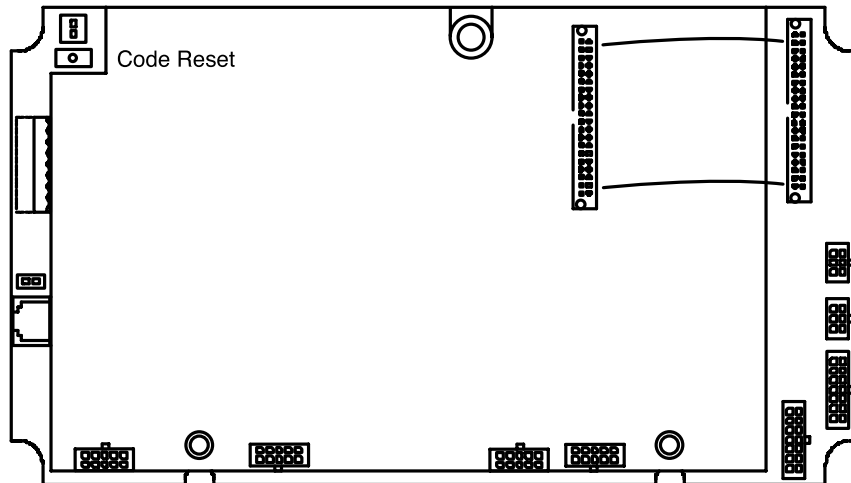

FIGURE 3-2
3. With power turned on and the unit in Operate mode, press and hold the ACCESS CODE RESET button (on the upper left side of the lower circuit board) for ten seconds. (See Figure 3-2)